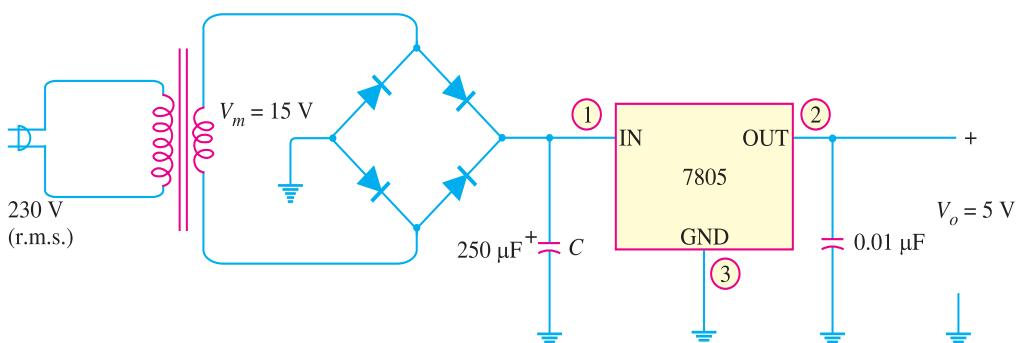

Fig. 17.27
**Solution.** The resulting circuit is shown in Fig. 17.27. Here we use 7805 IC with unregulated power supply.